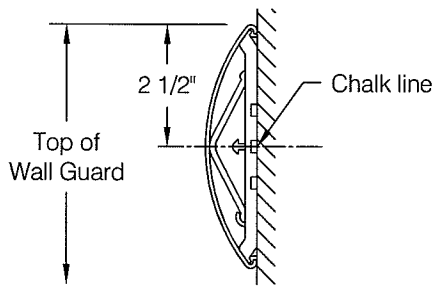

fig 1
Step 1: Determine top of wall guard height and snap a chalk line 2 ½" below to locate centerline of wall guard and to provide a reference line for locating Quik Clip retainers, see **fig 1**.